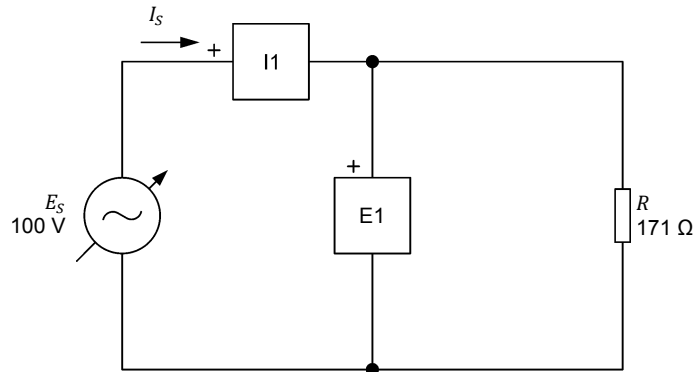

Figure 1-20. AC circuit containing a resistor, as well as a voltmeter and an ammeter for voltage, current, and power measurements.
7. Set up the circuit shown in Figure 1-20.